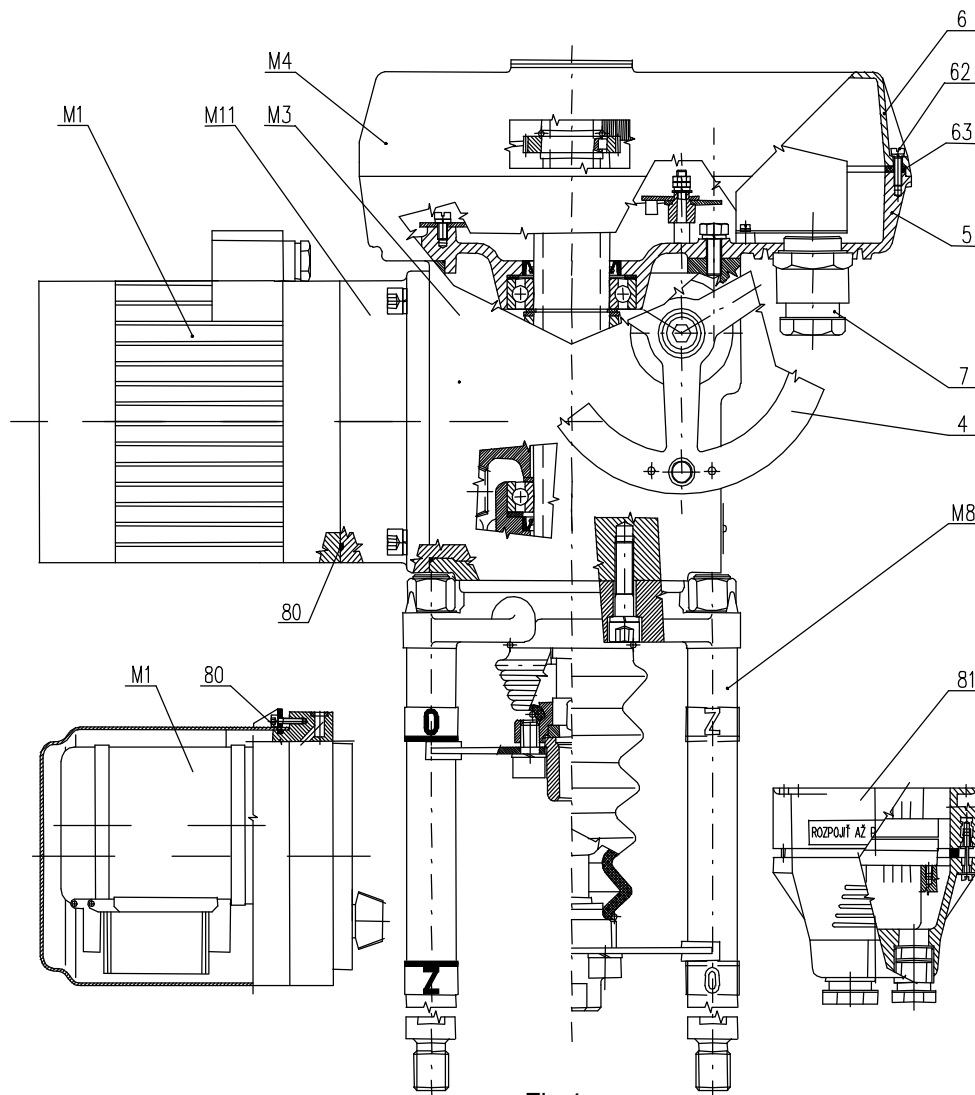

Fig.1
The actuators MT 52 400 resp. MT(R) (Fig.1) consist of the following modules:
Module M 4 – control box (Fig. 1)
- position unit (11)
- signalling unit with gear unit (12)
- torque unit (9)
- transmitter unit (33) (according to EA specification)
- heating resistor (16) with thermal switch (15)
- controller (only for EA **MOR**) (14)
- reversing contactors (13) (according to EA specification)
- electrical connections by means of terminals (58) situated within terminal box , and cable bushings (7) (Fig.1), or connector with cable bushings